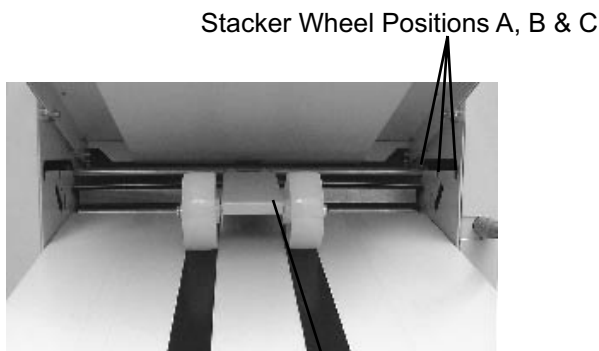

Fig. 4
3. Move the stacker wheels to the proper position for the paper size (Fig. 4)